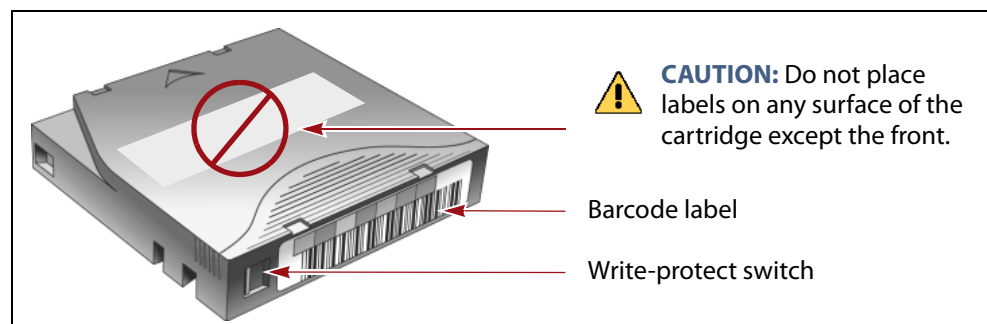

Figure 147 Attach barcode labels to cartridges and check write-protect switch setting (LTO cartridge shown.).
1. If your cartridges are unlabeled, prepare and affix a barcode label to each cartridge. Position each label in the indented area on the cartridge, as illustrated in Figure 147. See Barcode Label Specifications on page 558 for detailed information about barcode labels.
Do not place labels on any surface of the cartridge except the area shown in Figure 147. An improperly positioned label can become dislodged and damage the drive.